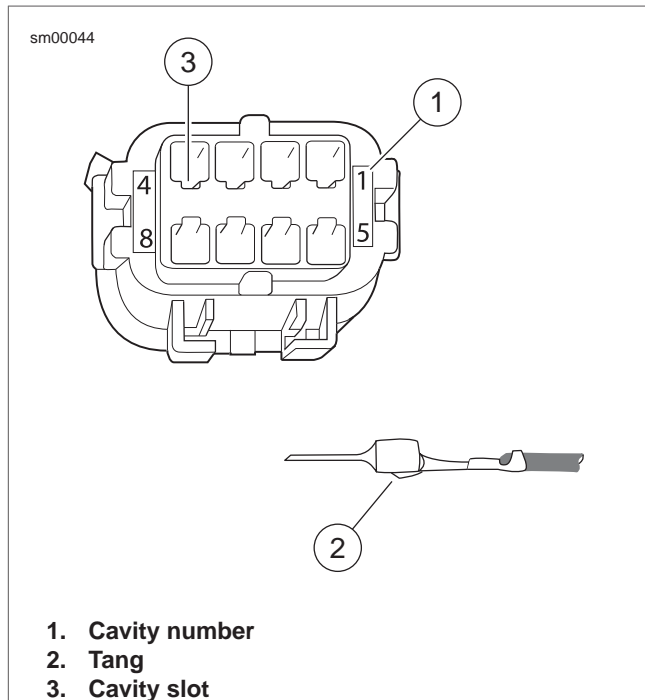

Figure A-37. Molex Connector: Pin Cavities and Wire Terminal
1. See Figure A-37. From the wiring diagram, match the wire color to its numbered terminal cavity.